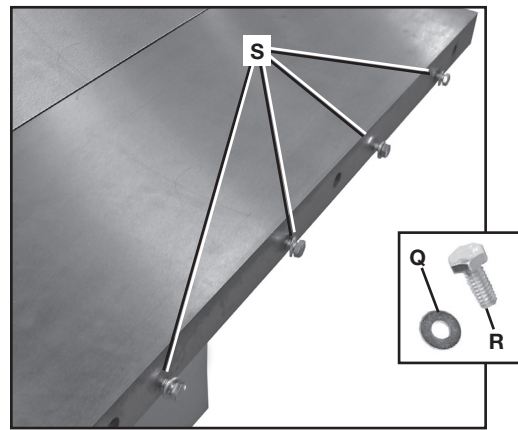
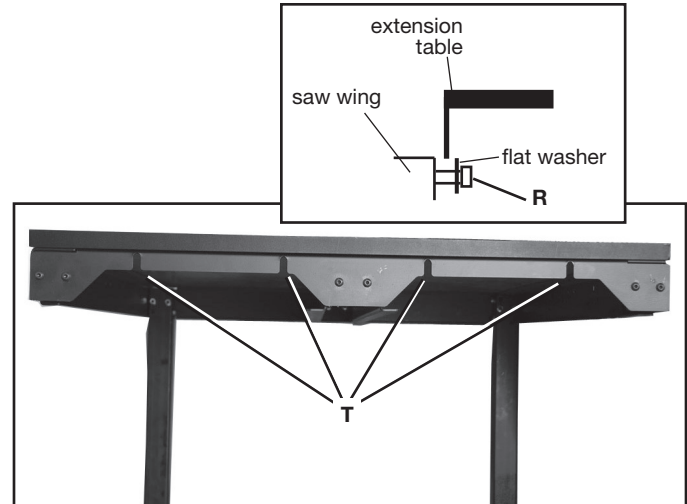
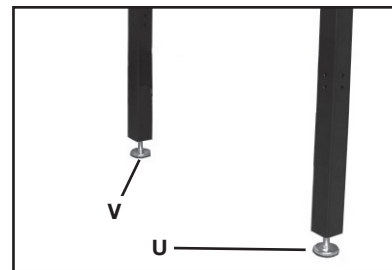

FIG. 8
FIG. 9
FIG. 10
1. Place 5/16" flat washers (Q) Fig. 8 on 5/16-18 hex head screws (R) and thread a few turns into the holes (S) in the right extension wing.
2. Holding the extension table, line up four slots (T) Fig. 9 in the extension table with these four screws (R) Fig. 8.
NOTE: Make sure the flat washers are against the heads of screws (R) Fig. 9 (inset).
3. Using the leveling feet (U and V) Fig. 10, make sure the extension table is level and in the same plane with the Unisaw right extension wing and tighten the four screws (R) Fig. 8 from underneath the extension table.